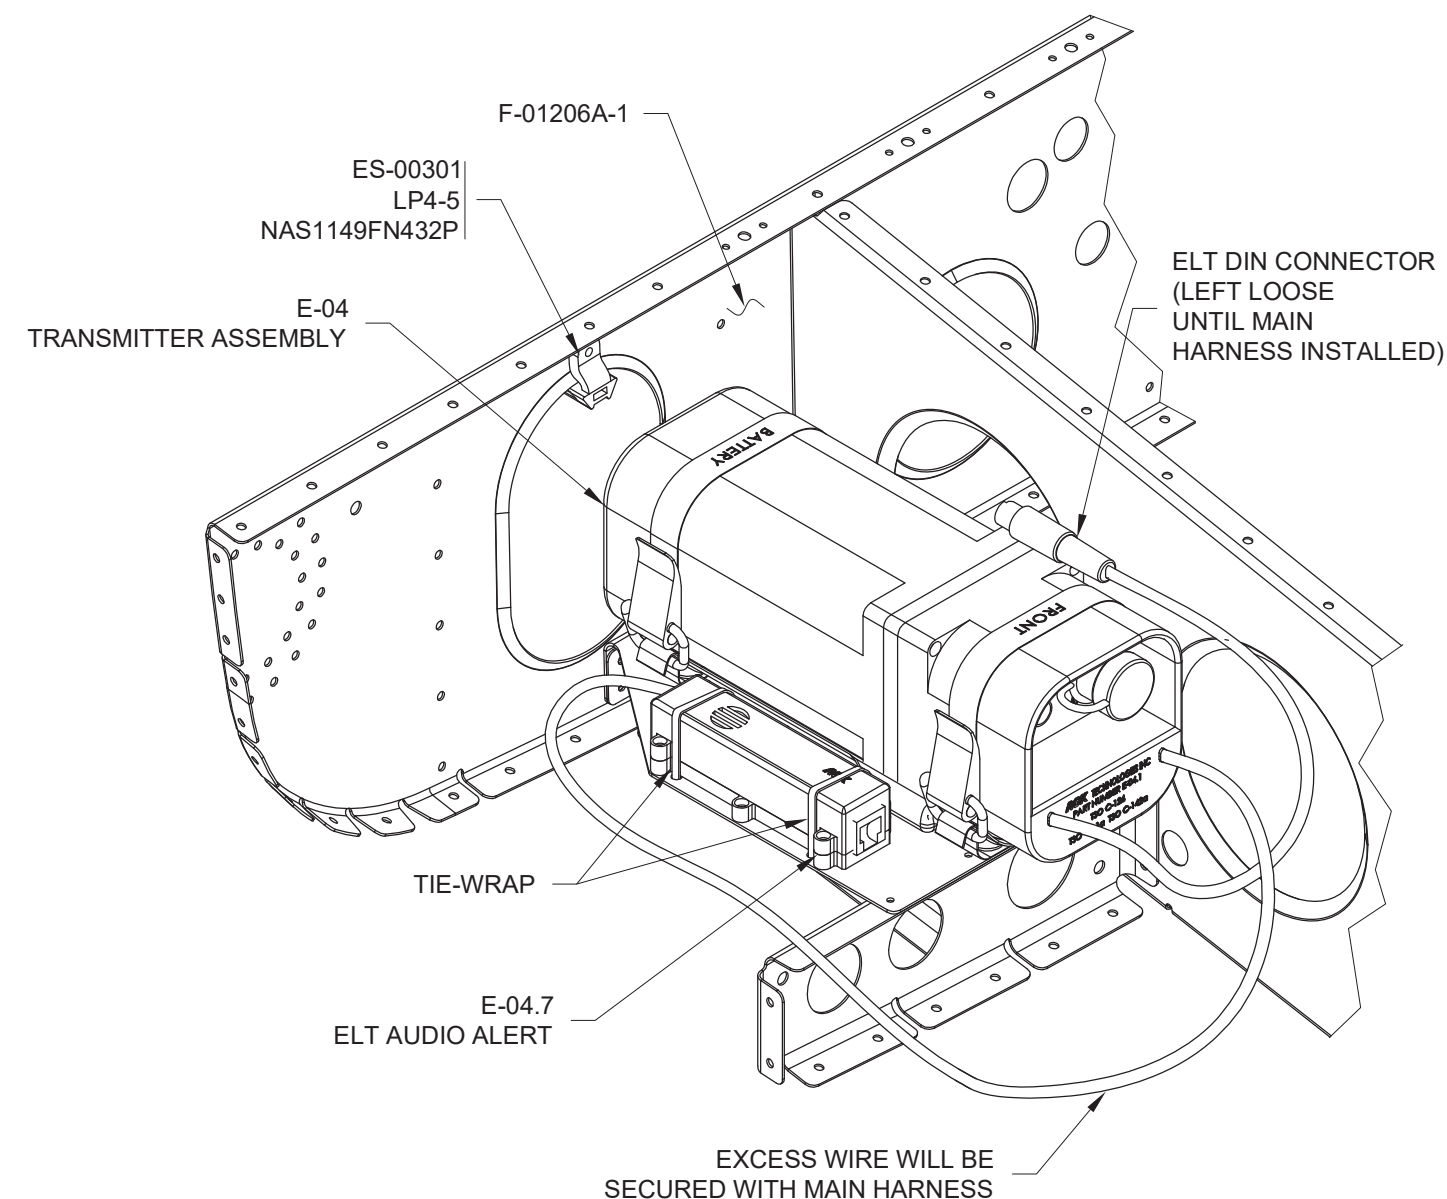

FIGURE 2: INSTALLING THE ELT
Step 4: Tie-wrap the E-04.7 to the F-12107A as shown in Figure 2. The loose wires will be secured when installing the main harness.
Step 5: Rivet the ES-00301 onto the F-01206A-1 as shown in Figure 2.